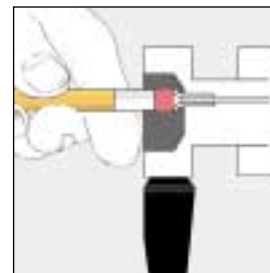

Fig. 1. To reform the needle seal, push the eraser end of a pencil against the needle port.
1. If fluid leaks out of the needle port only while loading the loop (i.e., while pushing down on the plunger of the syringe), the problem is most likely that the needle seal or the needle port fitting in the loop filler port is not gripping the syringe needle tightly enough to prevent leakage around the syringe needle. Tighten the needle seal grip by pushing down on the needle port (See Figure 1) or replace the needle port fitting to make a tighter grip on the needle. The tightening reduces the hole diameter of the needle seal and port fitting.